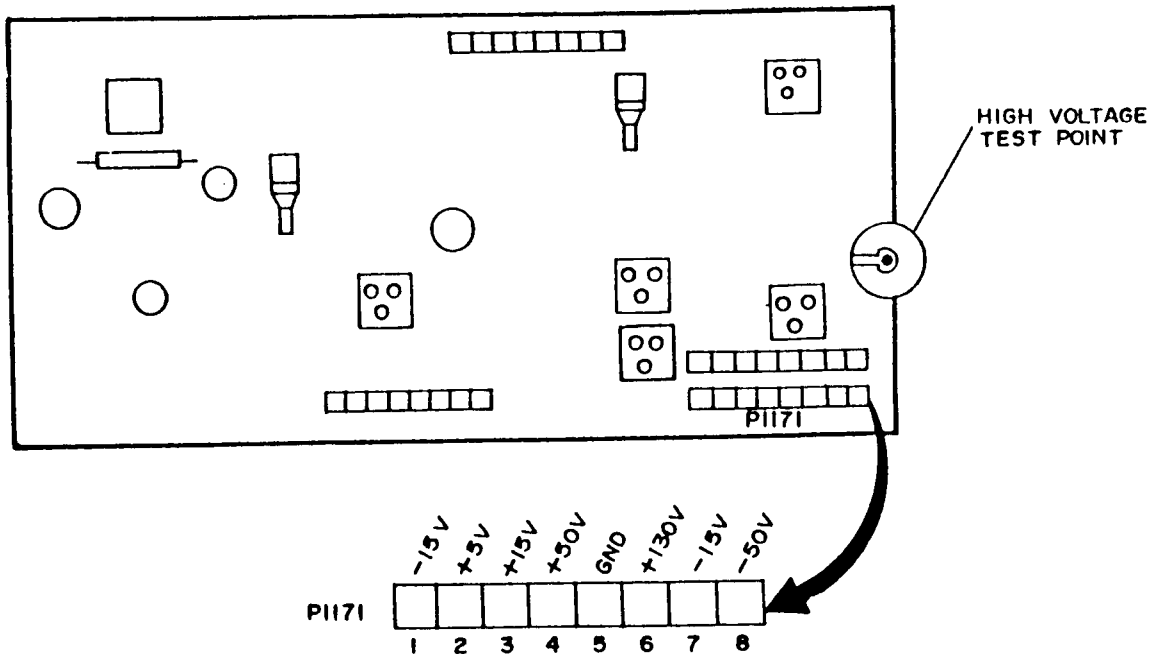

Figure 4. Board all power supply - top right rear view.
(1) Remove all plug-ins from TI compartments and position controls as listed in (a) through (c) below:
(2) Connect digital voltmeter to -50 V test point (fig. 4) and chassis ground. If digital voltmeter does not indicate between -49.9 and -50.1 V dc, perform **b** below.
(3) Connect digital voltmeter to test points listed in table 4 and chassis ground. Digital voltmeter will indicate within limits specified.
(4) Set **POWER OFF/ON** switch to **OFF** and connect digital voltmeter between **HIGH VOLTAGE TEST POINT** (fig. 4) and chassis ground, using high voltage probe supplied with digital voltmeter.
Test instrument test points (fig. 4)	Digital voltmeter indications (V dc)